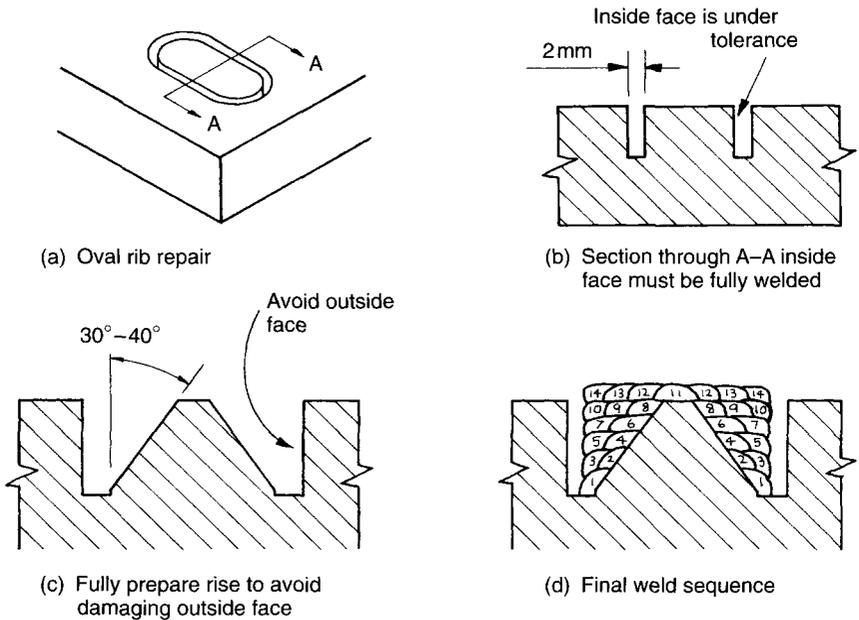

Fig. 6.45
**Solution 14** In this example, the oval inner rise has too small a diameter so the inside rise diameter has to be increased by 0.2 mm (0.1 mm per side) see Fig. 6.45(a) and (b).
When removing material to improve access, it is very important to choose a preparation that you will find accessible or comfortable to weld (Fig. 6.45(c)). You will then need to plan a logical weld sequence which will ensure that every run is a good one because you will not be able to go back to touch it up (Fig. 6.45(d)).